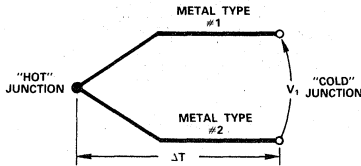

Figure 2. Typical Thermocouple
A thermocouple is a device that measures temperature by converting thermal energy to electrical energy. In order for this conversion process to take place, two phenomena must occur: (1) Two dissimilar metals must be bound together at one end to form the "HOT" or measuring junction with the free end attached to the instrument constituting the "COLD" or reference junction (shown in Figure 2) and (2) the "HOT" and "COLD" junction must be maintained at different temperatures ( $\Delta T$ ). The magnitude of voltage ( $V_1$ ) developed at the "COLD" junction is directly proportional to temperature differential developed between the two junctions.